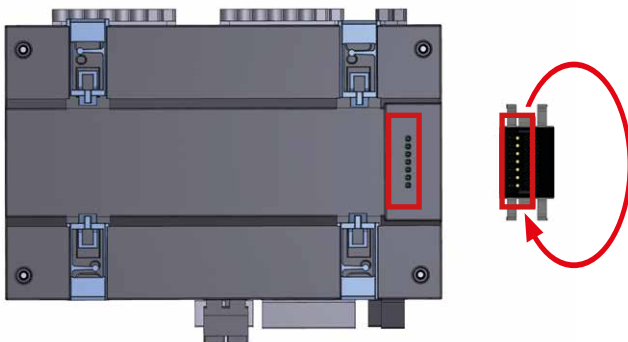

Fig. 1 - Installing the bus connector:
1. Check the installation of the bus connector (included in delivery, pre-assembled) on the back of your device. If not already done, plug the contacts of the bus connector into the sockets on the back of the measurement device (see Figures 1 - 3).